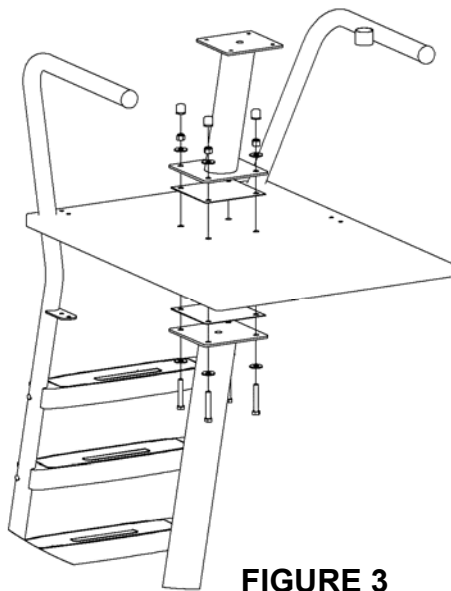

FIGURE 3
3. Attach the footboard and the seat pedestal assembly to the main pedestal using (4) 1/2"x3" hex head bolt, (8) 1/2" flat washer, (4) 1/2" hex nut, and (4) 1/2" plastic nut cap as shown in **FIGURE 3**. A rubber gasket is placed both above and below the footboard, in-between the stainless steel plates and the footboard.